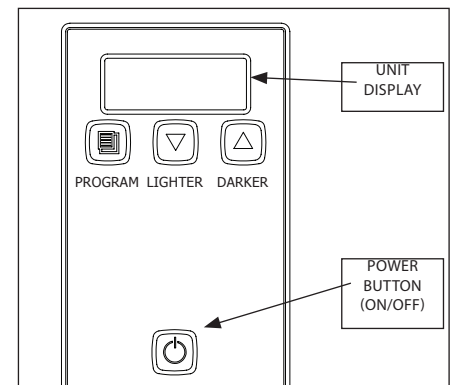

Figure 2. - GST-2V Control Panel
1. Press and release the **Power** button to turn the toaster on. Allow the toaster to warm up until **USE** appears in the display. See Figure 2.
The light/dark value (Figure 2) can be adjusted when the unit is displaying **USE**. To adjust the light/dark value: